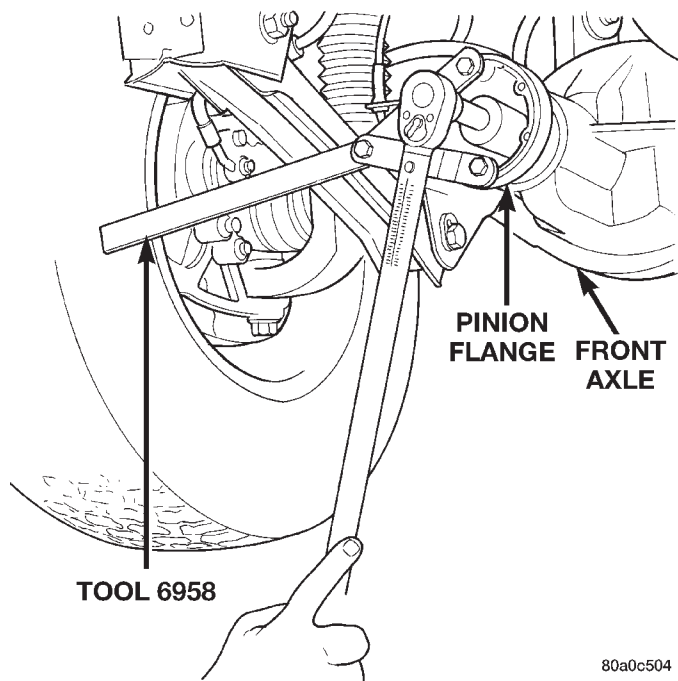

Fig. 22 Tightening Pinion Nut
(8) Using yoke holder 6958, a short length of 1 in. pipe, and a torque wrench set at 353 N·m (260 ft. lbs.), crush collapsible spacer until bearing end play is taken up (Fig. 22).